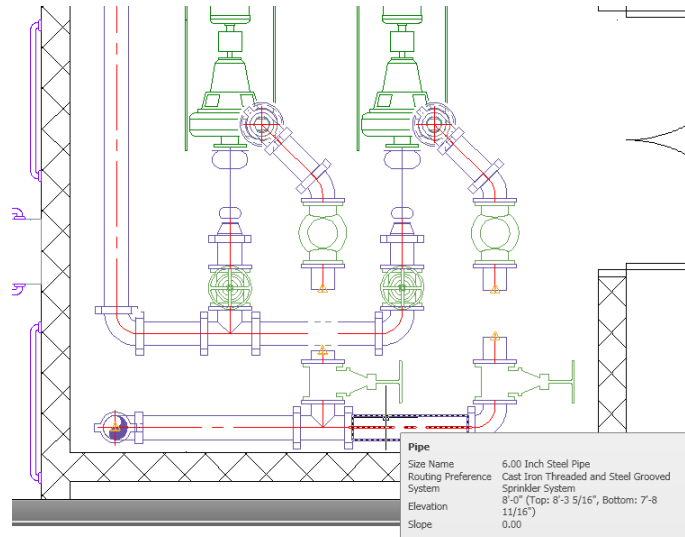

Figure 6.54
8. Move the mouse slightly and then click the second point of the break so that the pipe is in two parts (see Figure 6.54).
All the horizontal piping and valves connected to this pipe will move to 8'-0". To verify this, simply hover your cursor over the objects and the Tooltip will indicate the new elevation (see Figure 6.54).